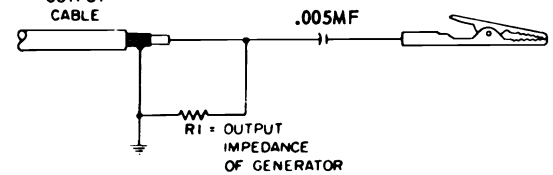

Figure 18 - Generator Cable Termination.
Generators — Except where stated otherwise, all signal generating equipment should be terminated as shown in Figure 18. Connect the signal cable ground near the ground of the state where the signal is injected.
- b. Apply AGC bias through the bias circuit (Figure 18) to the junction of R16- and C156 (Figure 18).